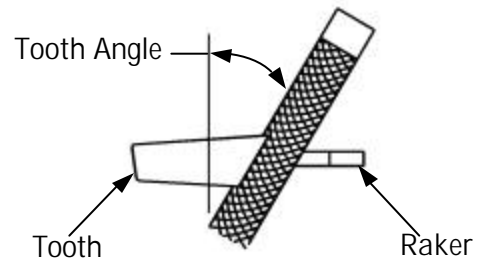
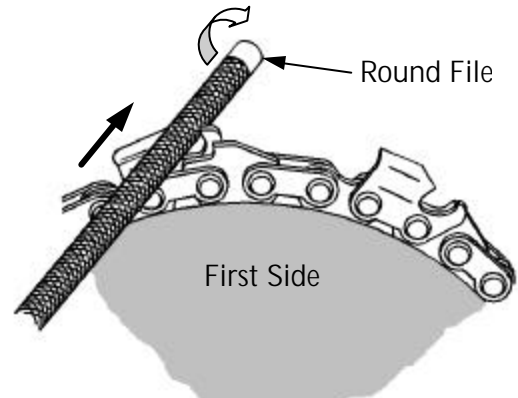

Figure 9
Figure 10
3. While holding the beaver blade in a standing (vertical) position, Place the round file into the tooth at the same angle as the cutting edge of the tooth (Figure 9). Lightly push the file across the cutting edge and through the tooth, twisting the file a half turn with each stroke (Figure 10).